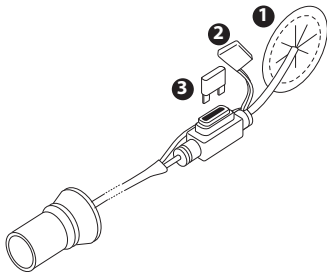

Figure 2: Replacing the Battery Fuse
2. Remove the fuse holder. See Figure 2.